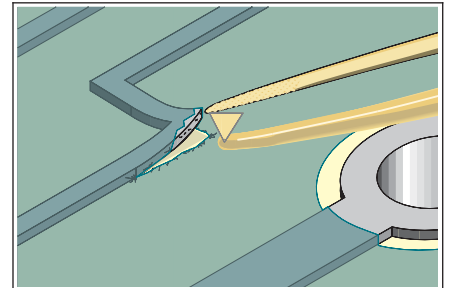

Figure 1 Place a piece of dry film epoxy under lifted conductor.
4. Cut out a piece of dry film epoxy that closely matches the size of the lifted conductor. Be careful not to contaminate the dry film epoxy with materials that could reduce the bond strength. (See Figure 1.)